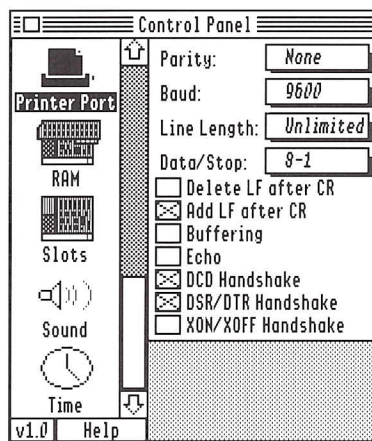

Figure 6-2 Apple IIGS Control Panel settings
3. Match the settings to those shown in Figure 6-2.